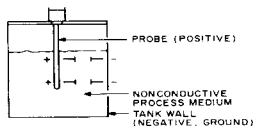

Figure 2. In noncontact media, the capacitance probe and tank wall serve, respectively, as the positive and negative plates.
Using capacitance to measure level turns the entire storage vessel into a giant capacitor (see Figure 2). As is the case with a circuit-size capacitor, the important parameters are the area of the conductive plates (A), the distance between them (d), and the dielectric constant of the stored material (ϵ). The capacitance (C) of a parallel plate capacitor is thus: